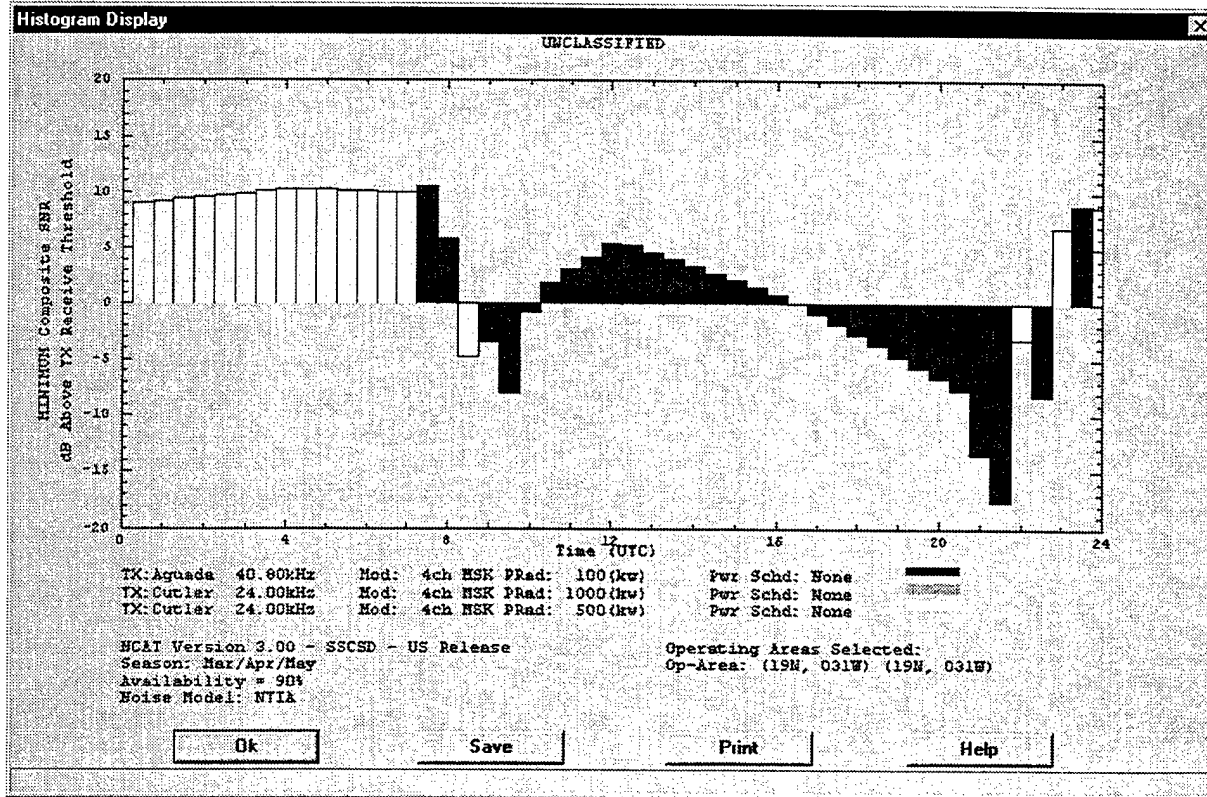

Figure 21. Example of a minimum composite SNR plot.
- A minimum composite SNR plot of the selected operating areas and transmitters selected. To perform a minimum composite plot, select Run Scenario -> Show SNR Composite (MIN)... Figure 21 shows an example of a minimum composite SNR chart.